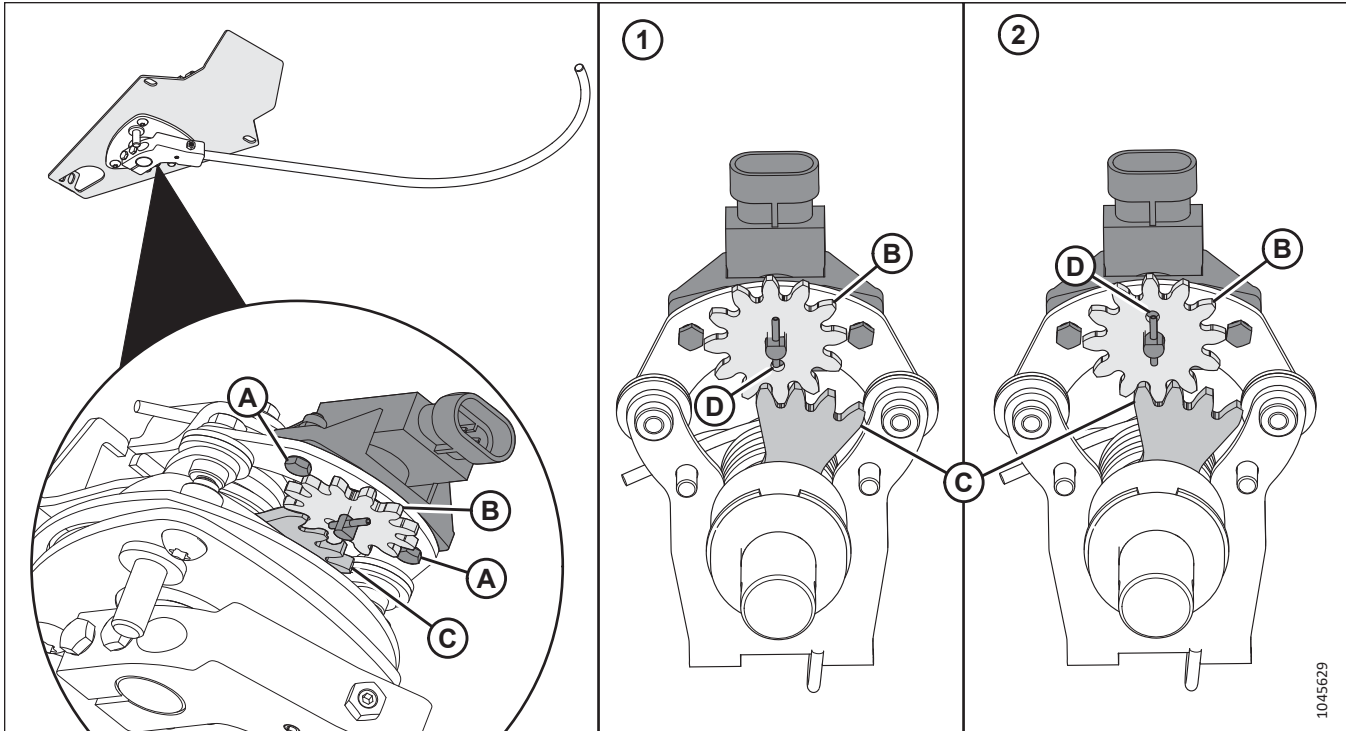

Figure 7.3: Row Guidance Sensor
- 1 - John Deere Configuration: Hole (D) Closest to Arm (C)
- 2 - Case, CLAAS, New Holland Configuration⁸: Hole (D) Farthest from Arm (C)
2. Loosen nuts and bolts (A) enough to allow sensor gear (B) to disengage from arm (C).
3. Rotate sensor gear (B) until hole (D) is positioned correctly for the combine type. Refer to Figure 7.3, page 86.
4. Retighten nuts and bolts (A) to secure the sensor.
5. Install the sensor arm assembly into the end of the snout, and secure it with bolts (A).